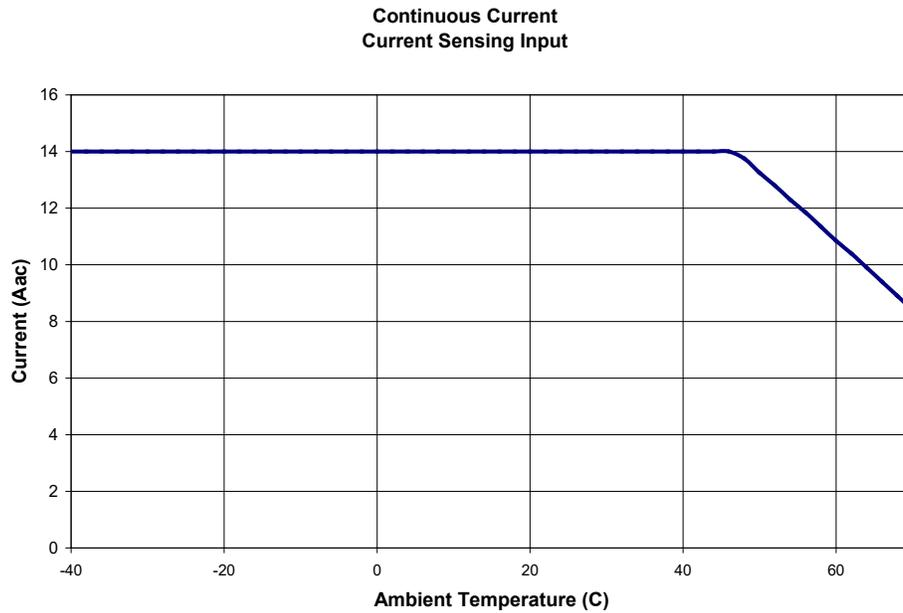

Figure 1-1. Current Sensing Input Derating Curve (BE1-50/51B-241)
* Continuous rating is 14 Aac for temperatures up to 45°C. See Figure 1-1 for de-rating curve.